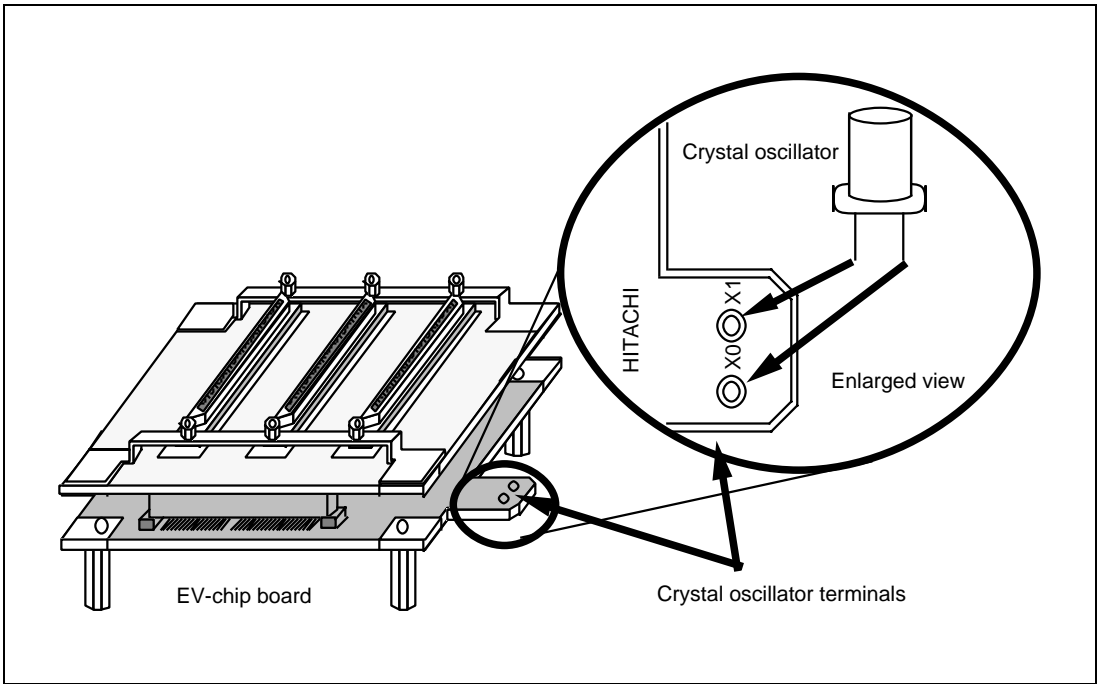

Figure 3.6 Installing the Crystal Oscillator
2. Attach the crystal oscillator into the terminals on the EV-chip board (figure 3.6).